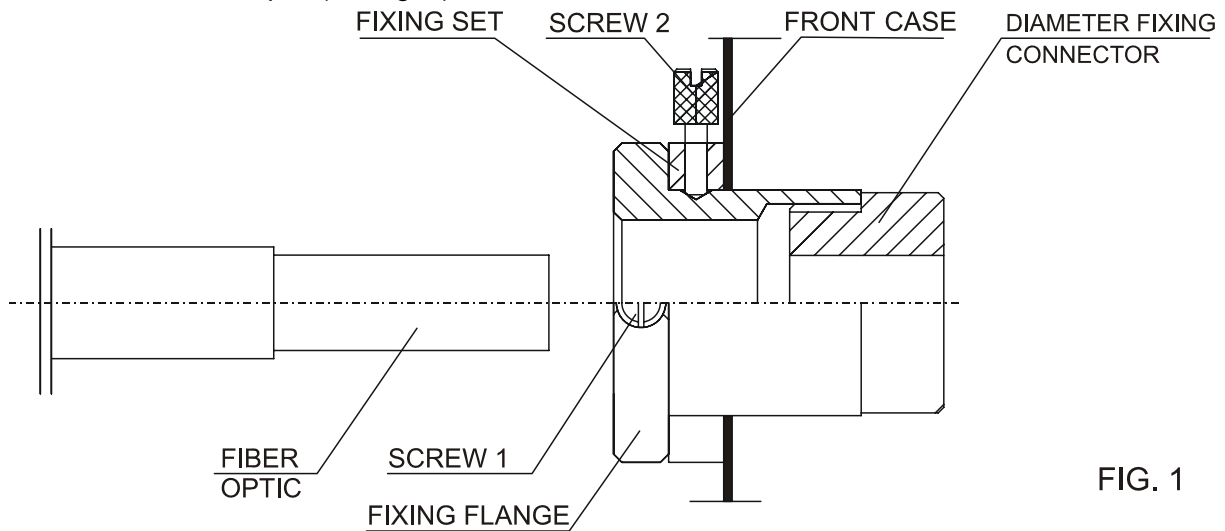

FIG. 1
5. Installation of fiber optic (see fig. 1)